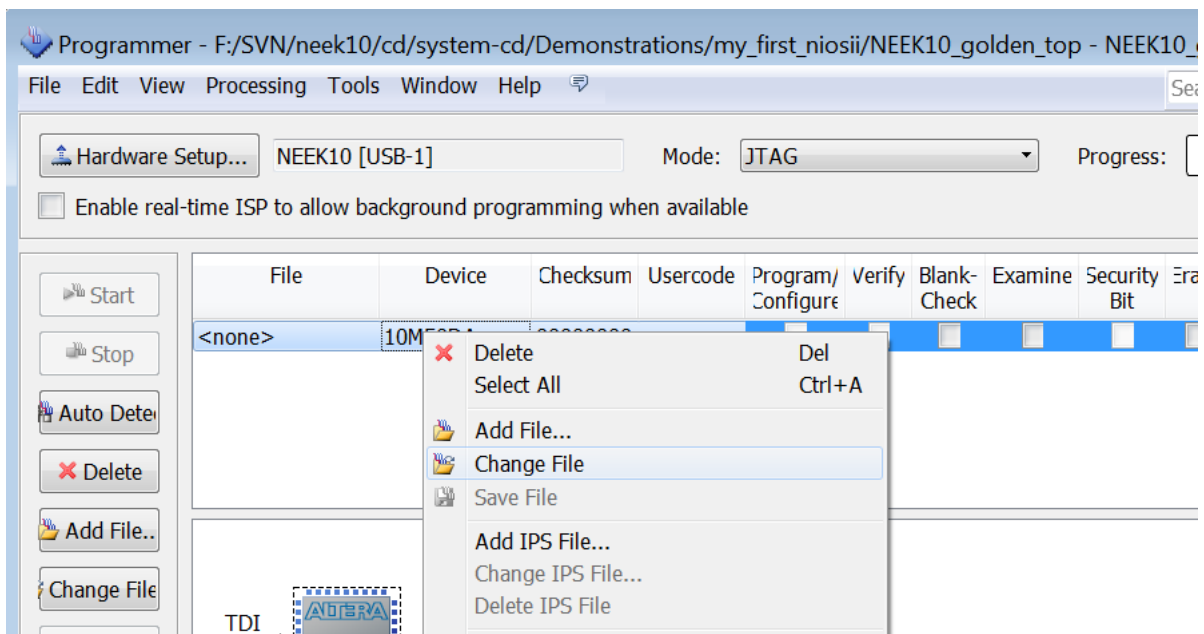

Figure 1-50 Change File
8. Right-click on the device and select Change File, as shown in **Figure 1-50**.